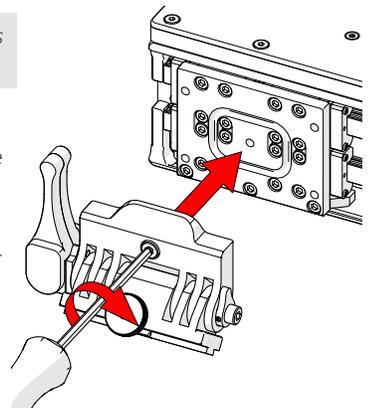

Fig. 63 - Install (male) pivot nose
3. Mount the (*male*) pivot nose (*sold separately*) to the Raster Arm HT (Fig. 63).